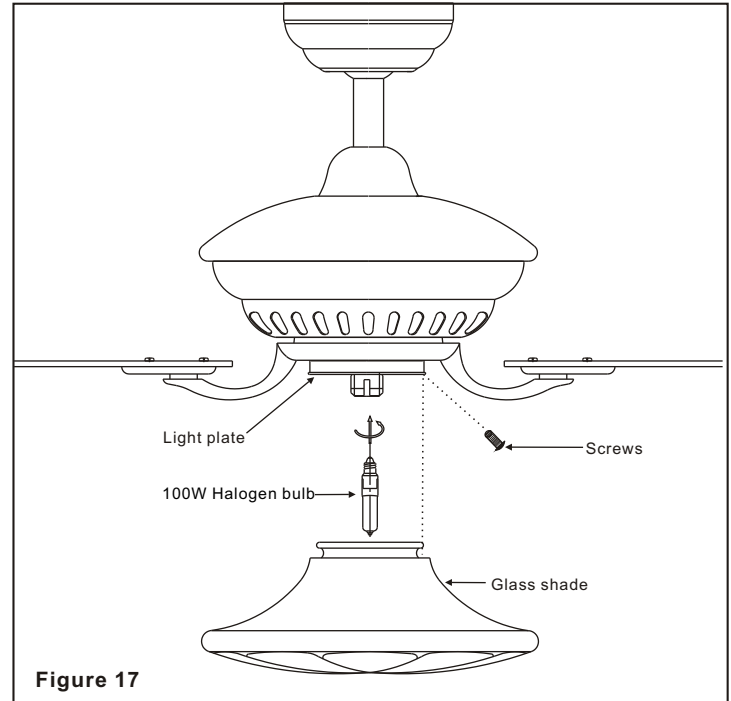

**Figure 16**
2. Most fan wobble problems are caused when blade levels are unequal. Check this level by selecting a point on the ceiling above the tip of one of the blades. Measure this distance as shown in Figure 16. Rotate the fan until the next blade is positioned for measurement. Repeat for each blade. The distance should be equal within 1/8".